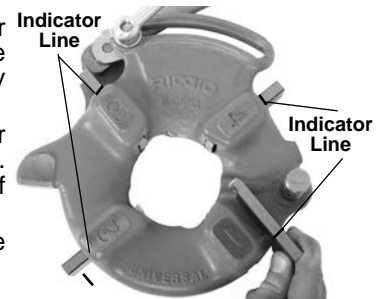

Figure 3 – Inserting Dies
4. Lift tongue of washer out of slot in size bar. Move washer to end of slot (*Figure 3*).
6. Insert appropriate dies into the die head, numbered edge up until the indicator line is flush with the edge of the die head (*see Figure 3*). Numbers on the dies must correspond with those on the die head slots. Always change dies as sets – do not mix dies from different sets.